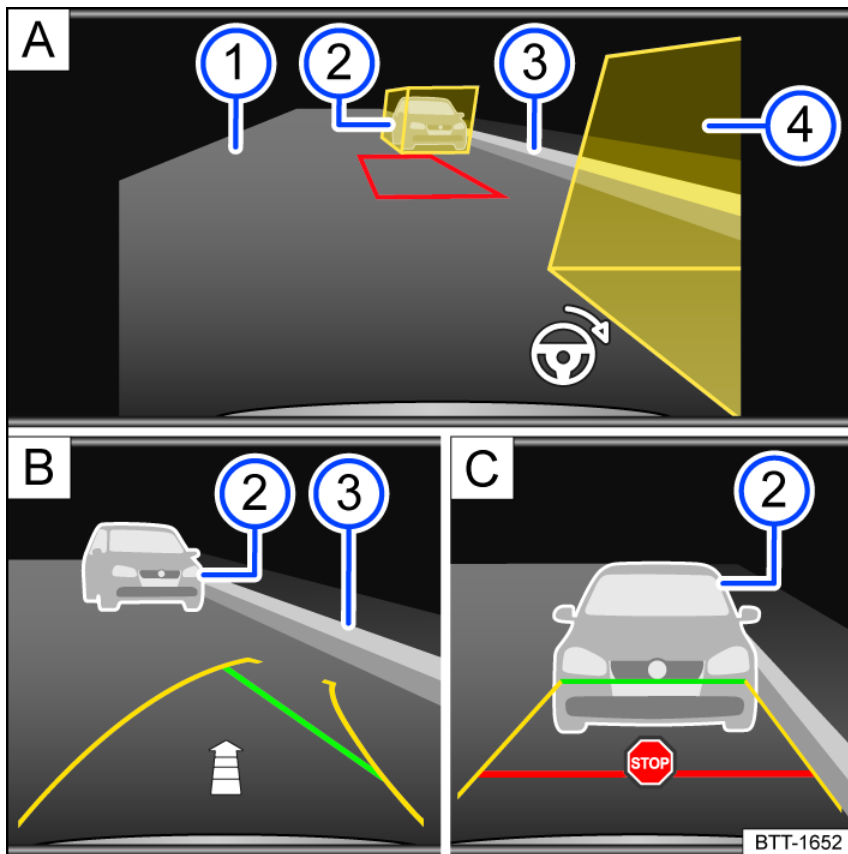

Fig. 152 Infotainment system: Parking parallel to the road.
① Road surface.
② Obstacle or assisting box.
③ Side boundary of the parking space.
④ Obstacle or assisting box.
4. Position the vehicle at a distance of approximately 1 m (3 ft) parallel to the parking row. The yellow assisting boxes must cover the obstacles fig. 152 A ②. The area in between must be free of obstacles.
5. Select the reverse gear. A red frame represents the target position of your vehicle fig. 152 A.
6. Turn the steering wheel until the red frame moves between the assisting boxes and becomes green fig. 152 A. Hold the steering wheel in this position while driving in reverse.
7. Drive slowly in reverse until the  stop symbol appears or the green line aligns with the side boundary of the parking space fig. 152 C. An fig. 152 B arrow indicates the remaining distance to be driven based on the number of displayed segments.